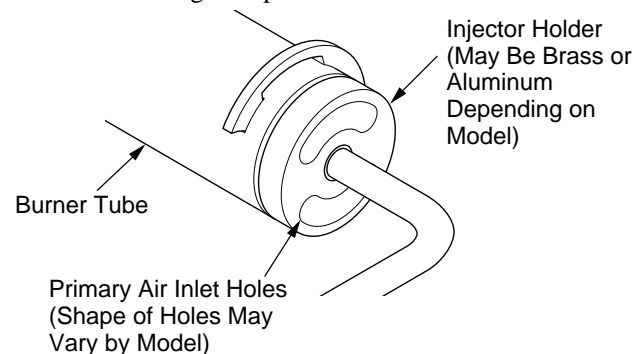

Figure 31 - Injector Holder On Outlet Burner Tube
2. Inspect burner, pilot, and primary air inlet holes on injector holder for dust and dirt (see Figure 31).